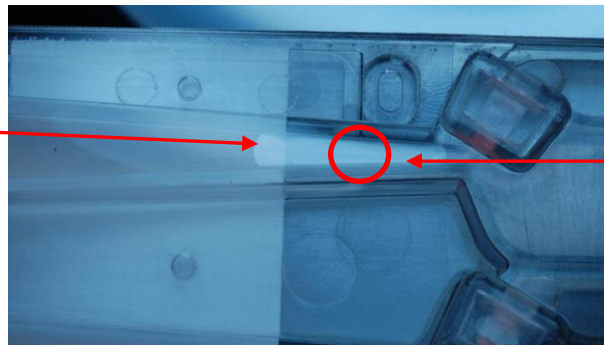
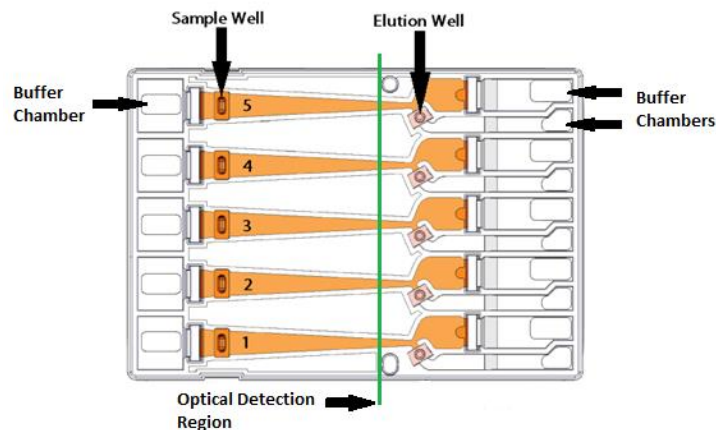

Figure 10.2. Bubble in optical path. Do not use the lane for the DNA reference marker.
Figure 10.3. The region of optical detection
4. **Inspect bottom of cassette for bubbles in the detection region of the gel columns.** If a cassette has been jarred during shipping, the agarose column can delaminate from the plastic bottom of the separation channel, forming a thin flat bubble between the gel column and the bottom of the channel. If this happens in the region used by the optical detector (see illustration), DNA detection will be extremely unreliable. ***If a lane with such a bubble is used for the reference marker, the markers will not be properly identified and sample collection will occur at the wrong time or fail altogether.*** (Only the optical properties of the channel are affected -- electrophoretic properties of the channel are unaffected, since the DNA travels through the center of the gel column, above the bubble.) To find such bubbles, turn the cassette upside-down, and view the bottom of the channels under a strong light, while tilting the cassette back and forth (see **Figure 10.2**, below). **Figure 10.3** shows the region of optical detection.